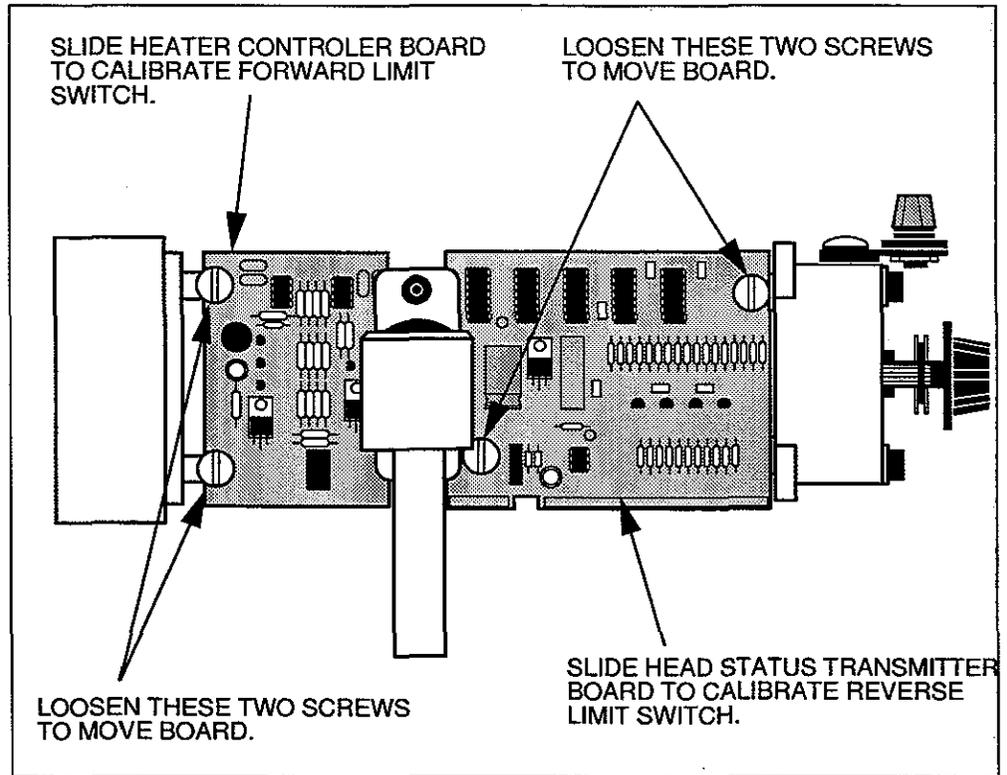

Figure 6-5
- Position the powerhead sideways in such a way that the pot mounting bracket is facing downward. See Figure 6-5.
- Place the other end of the string on a spring scale and apply a 2 1/2 lb. force. See Figure 6-5.
2. Loosen (but don't remove) the two screws holding the Status Transmitter Board in the powerhead (see Figure 6-5). While repeatedly pressing the No key, turn the piston control knob until the System Display reads:
2. Loosen (but don't remove) the two screws holding the Heater Controller Board in the powerhead (see Figure 6-5). Repeatedly press the No key and turn the piston control knob until the System Display reads